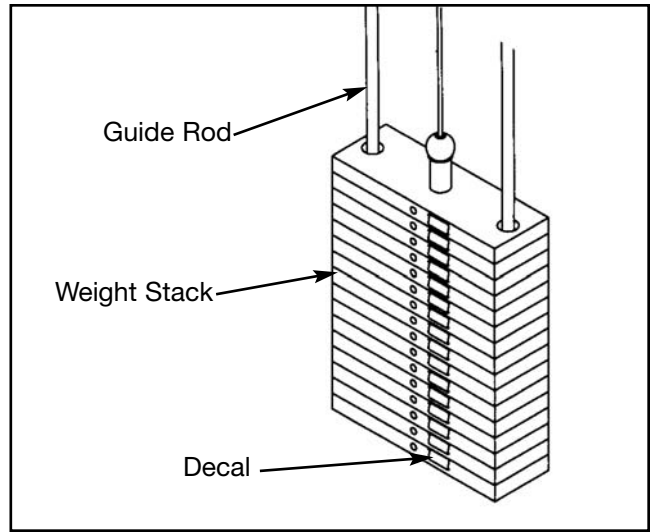

Figure 24
- G. Carefully remove front side, leaving decals adhering to weight plates. See Figure 24